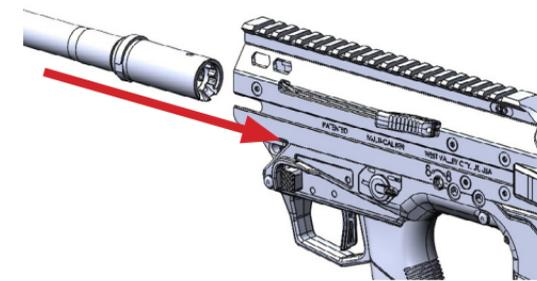

Fig. a-6
- Insert the barrel assembly into the MDR receiver, barrel extension end first with the gas block rail at the 12 o'clock position. When properly seated in the receiver, there should be around a 1/16" (1.5mm) gap between the front edge of the upper receiver and the back edge of the gas block. (Fig. a-6)